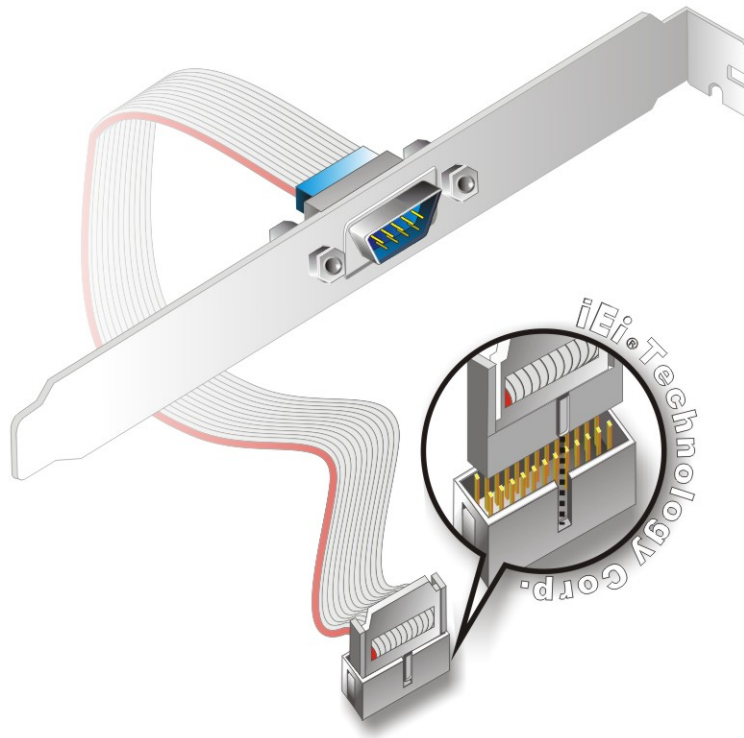

Figure 4-14: Single RS-232 Cable Installation
- Step 2: Insert the cable connector.** Insert the connector into the serial port box header. See Figure 4-14. A key on the front of the cable connectors ensures the connector can only be installed in one direction.